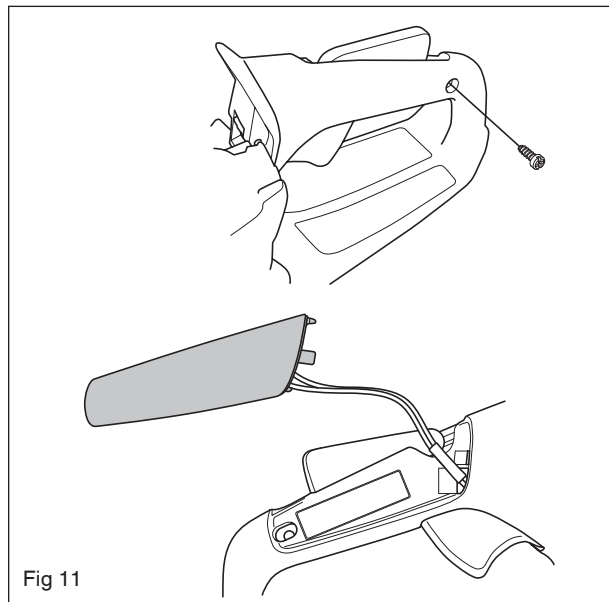

Fig 11
1. Remove the cylinder cover. Loosen the screw on the left hand side of the rear handle and dismantle the handle insert with the attached cables. See Figure 11.